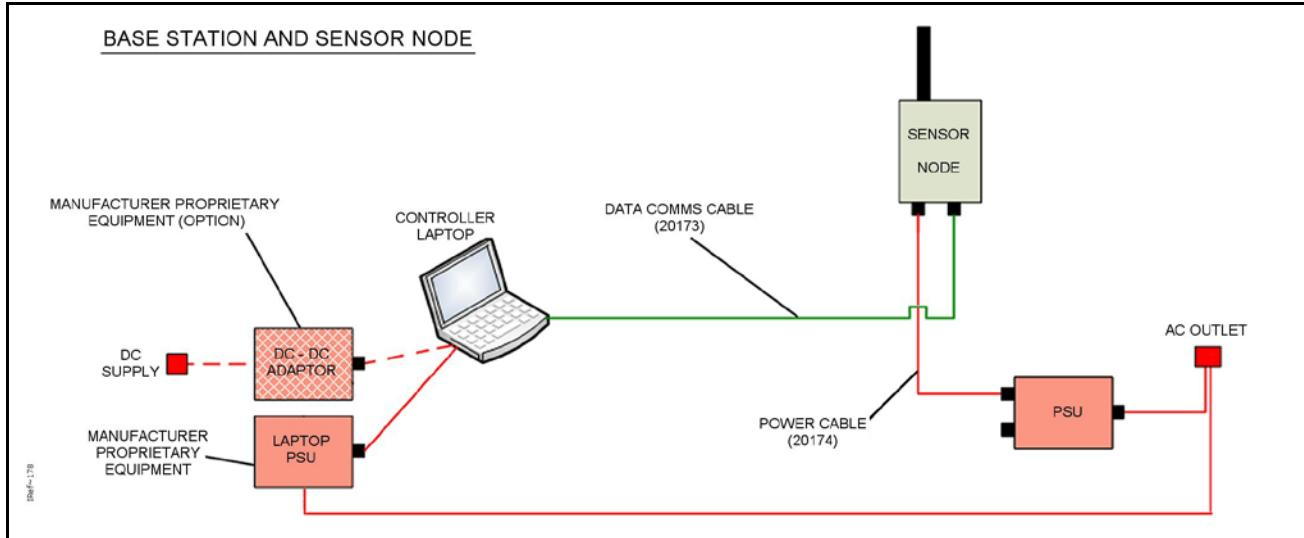

Figure 25 Interconnection Diagram for Base Station Node using Battery Power
- 6 If required, connect a mains power supply connector 1 on the Sensor Node using the supplied power cable. See Figure 25.
- 7 Using the Communications cable provided with the Base Sensor Node kit or provided as an optional additional accessory, connect the RS232 port on the Laptop PC to connector 3 on the Sensor Node. See Figure 25.